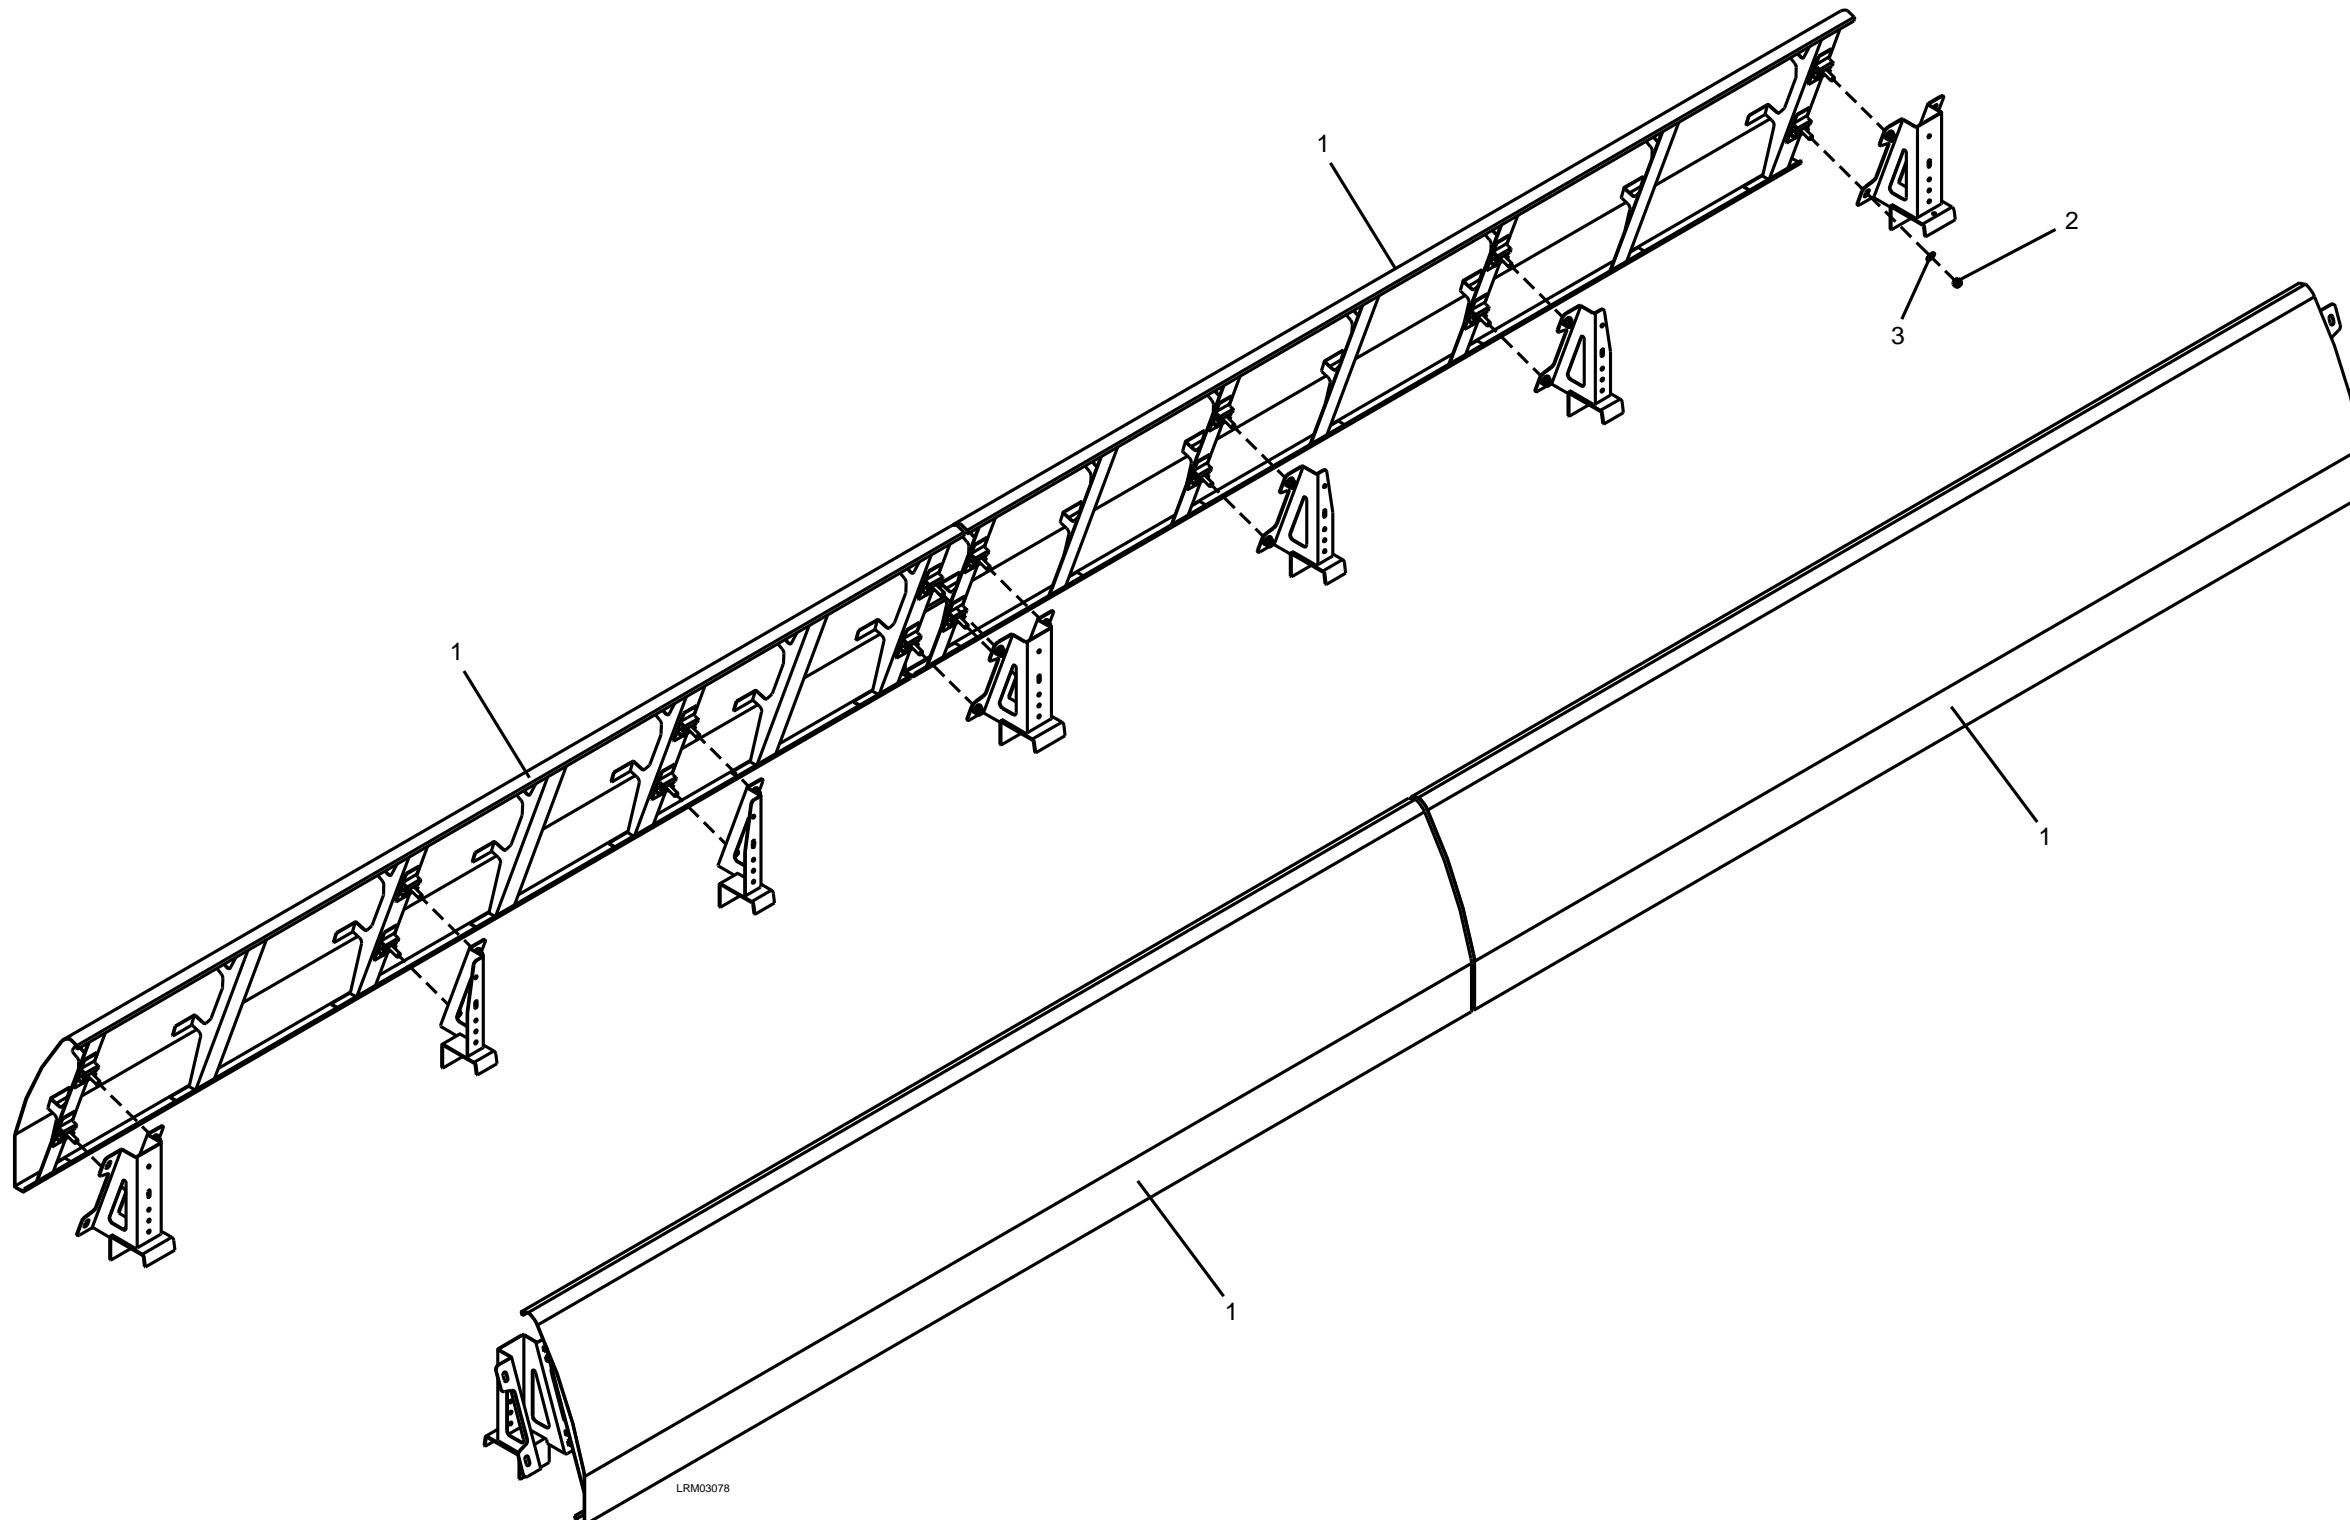

Figure 7-124: Roof Shroud, Group B
1. Remove the eight M10 ESNA nuts (2) and M10 plain washers (3). See Figure 7-124.
2. Carefully remove the Roof Shroud (1).